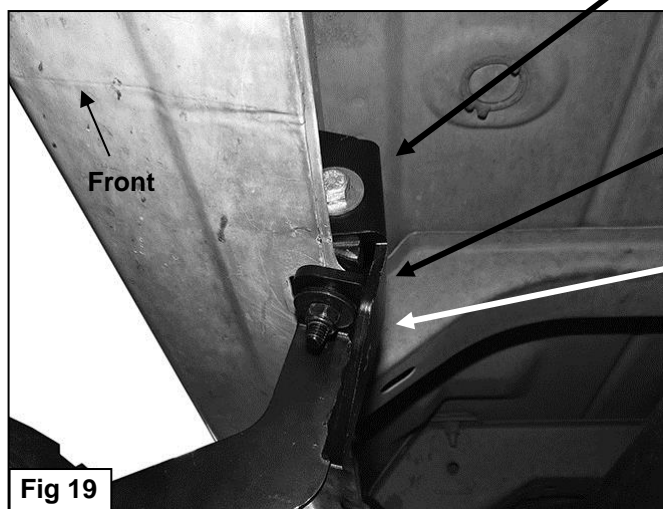

Fig 19
10. Line up the side tab on the Lower Bracket with the threaded hole in the side of the Upper Bracket. Attach the Lower Bracket to the Upper Bracket with (1) 8mm x 25mm Hex Bolt, (1) 8mm Lock Washer and (1) 8mm Flat Washer, (**Figure 19**). Leave loose at this time.